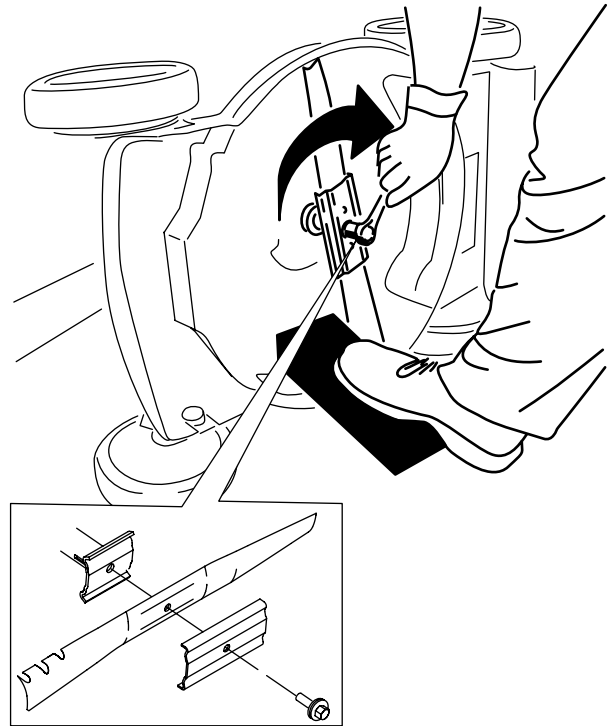

Figure 20
5. Install the new blade and all mounting hardware (Figure 20).